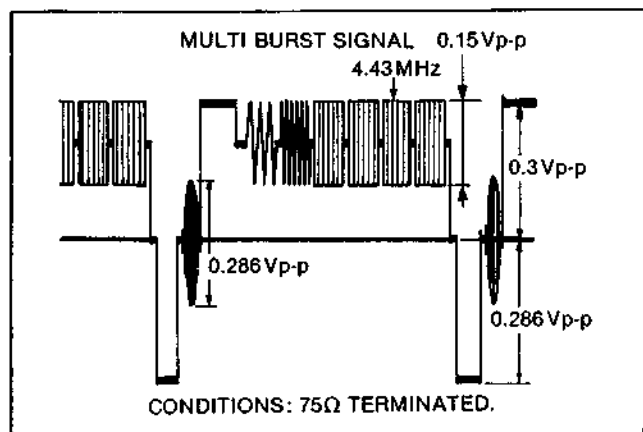

FIG. E23
6. Set the video sweep generator output as shown in FIG. E23.